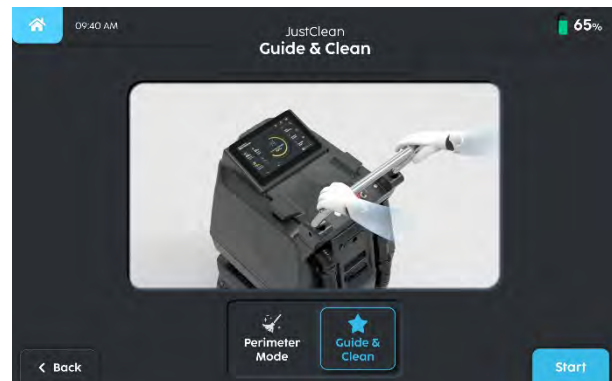

Fig. 2
2. Select 'Guide &Clean Mode' or 'Perimeter Mode' (Fig2 or Fig 10).